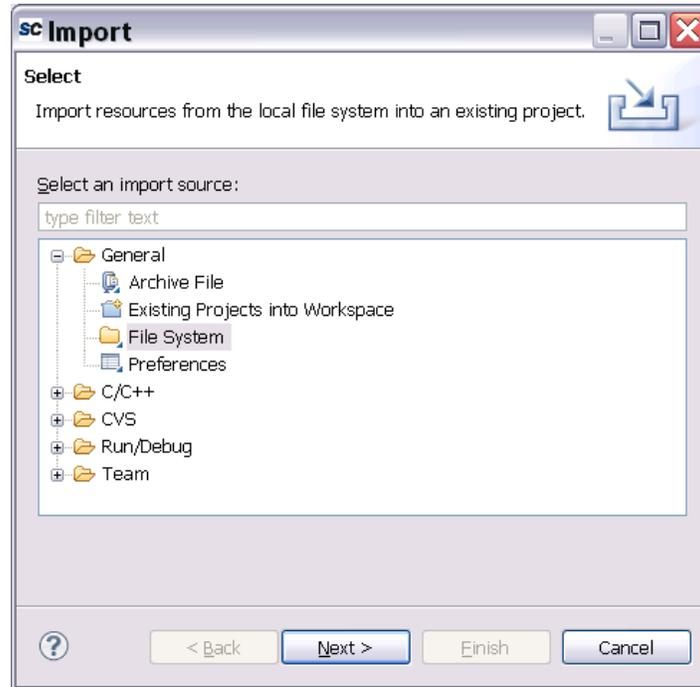

Figure 20 Select an Import Source
2. Click **General**, select the **File System** and click **Next**, as shown in Figure 20.